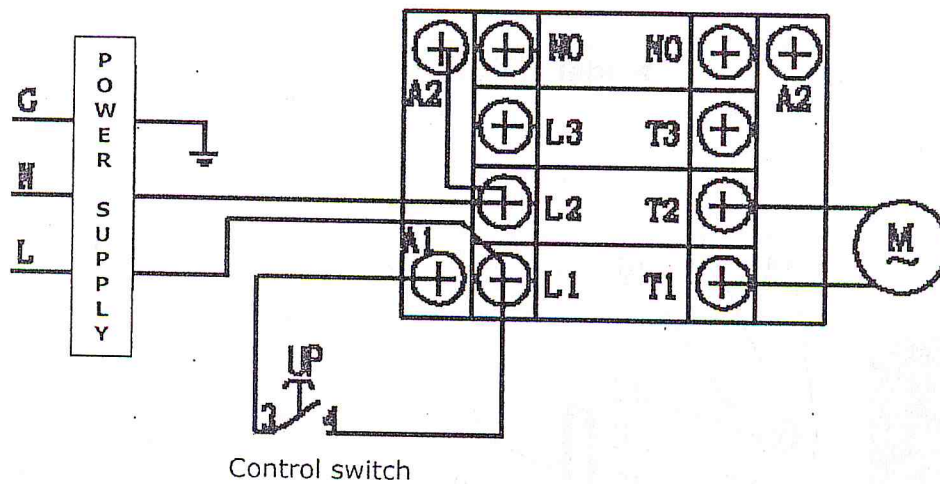

Fig. 31
1.3. Connection diagram (See Fig. 31).